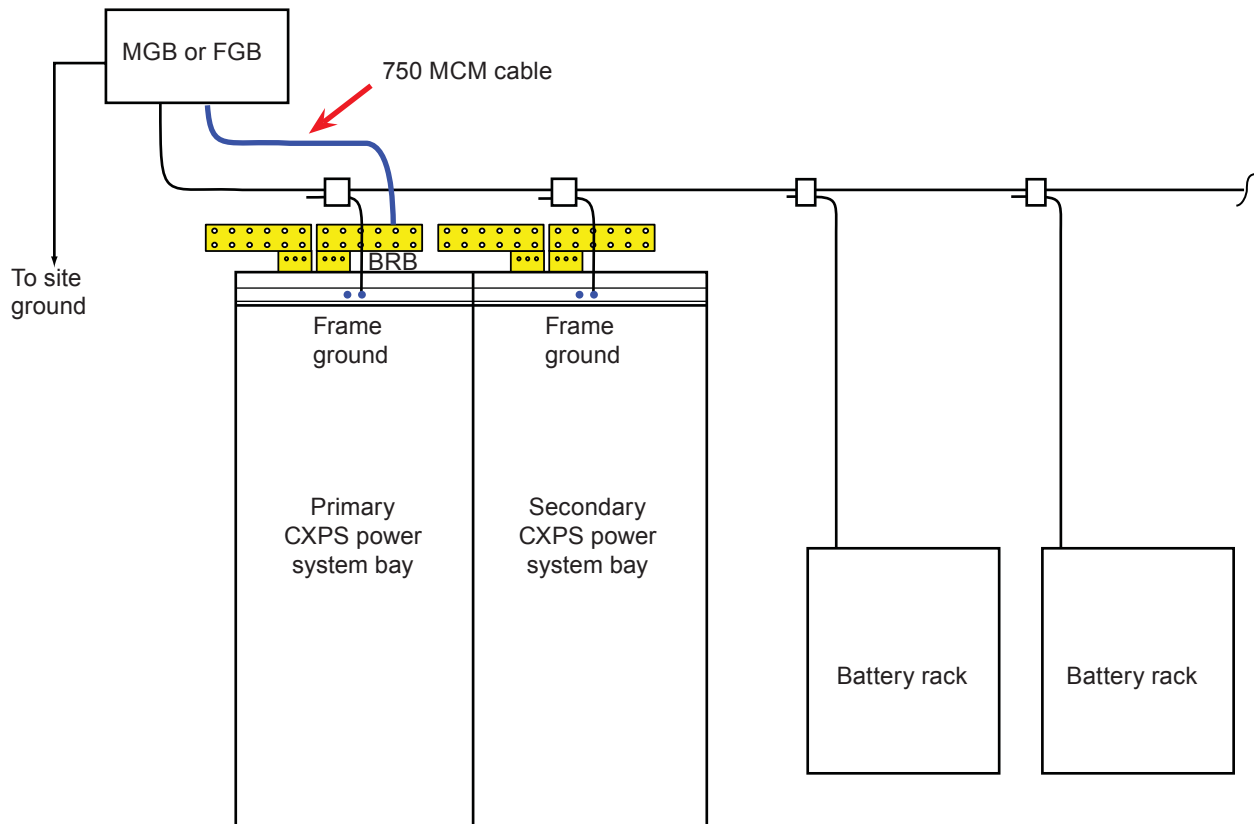

Figure 30 — Frame and reference returns (front view)
1. Connect the isolated power system battery return bus (BRB) of the primary bay to the building master ground bus (MGB) or floor ground bus (FGB) in larger buildings (Figure 30). This acts as a system reference and a low impedance ground path for surges, transients, noise, etc. The MGB or FGB should have a direct low impedance path to the building grounding system.
The power plant frame must also be connected to the MGB or FGB—see Figure 30. This is done for personnel safety and to meet many telco-grounding requirements. Cable should be #6 AWG (16mm) for small to medium size power plants and #2/0 for large plants (> 800A).